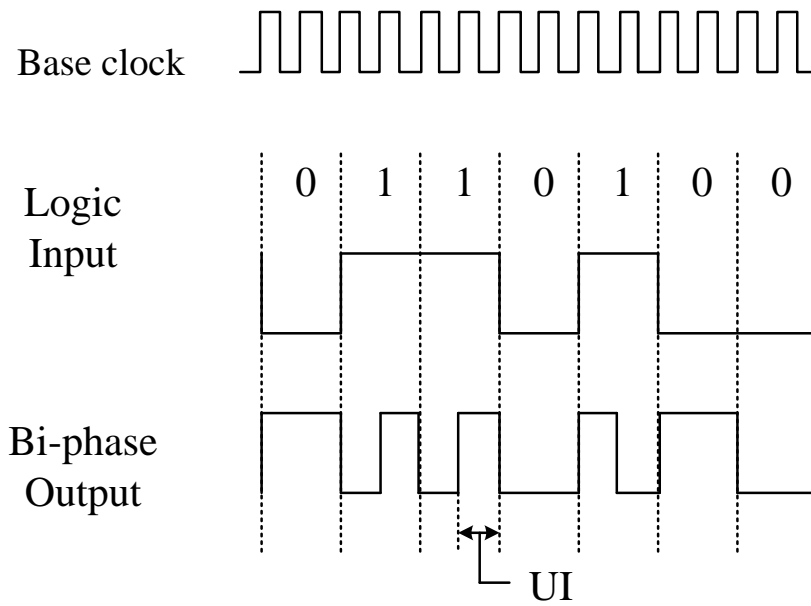

Fig. 6.3.2 S/PDIF biphasemark-code (BMC).
The S/PDIF data signal is coded by the “biphase-mark-code,” which is a kind of phase modulation. It is illustrated in Fig. 6.3.2. The base clock of a S/PDIF signal is twice the bit rate, and the frequency of the base clock is only determined by the sampling rate. The period of the base clock is called the Unit interval (UI). For example, for a 48KHz 2-channel S/PDIF signal, the frame rate is also 48KHz, so a frame period is 20.833us, and a subframe period is 10.416us. A subframe contains 32-bit slot, so a bit slot period is 325.52ns. As we said above, the base clock is twice the bit rate. Therefore, the period of the base clock is 162.76ns. In other words, the frequency of base clock is 6.144 MHz. Bi-phase coding can prevent PCM data from DC isolated and insensitive to level polarity. A maximum up to 24 data bits can be transmitted by the S/PDIF signal, and the sequence is from LSB to MSB.